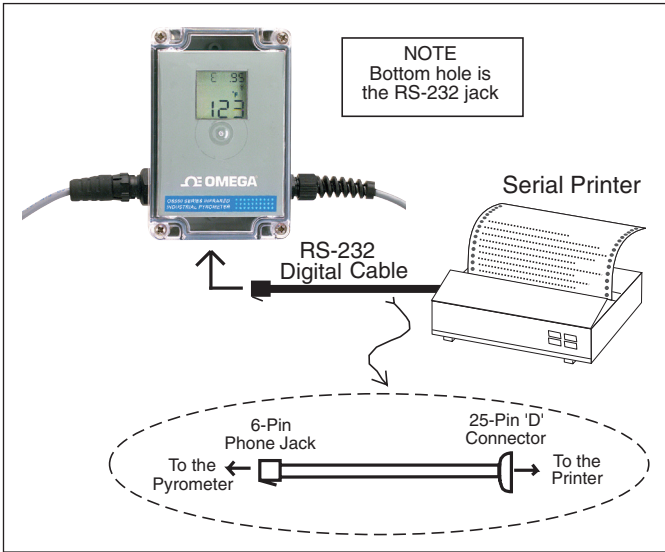

Figure 3-10. Serial Printer Hookup
3. Connect the RS-232 cable between the thermometer and the printer as shown in Figure 3-10. Be sure to install the cable strain relief to maintain the environmental seal.